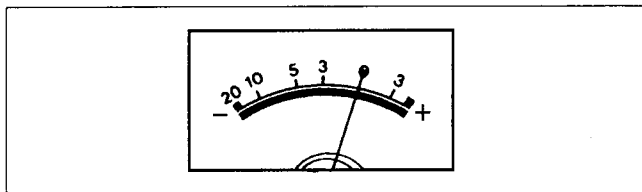

Figure E16
SPEC.	REFER TO FIG. E16
2. Adjust VR3014 so that the needle of VIDEO TRACKING METER becomes at point as shown in Figure E16.